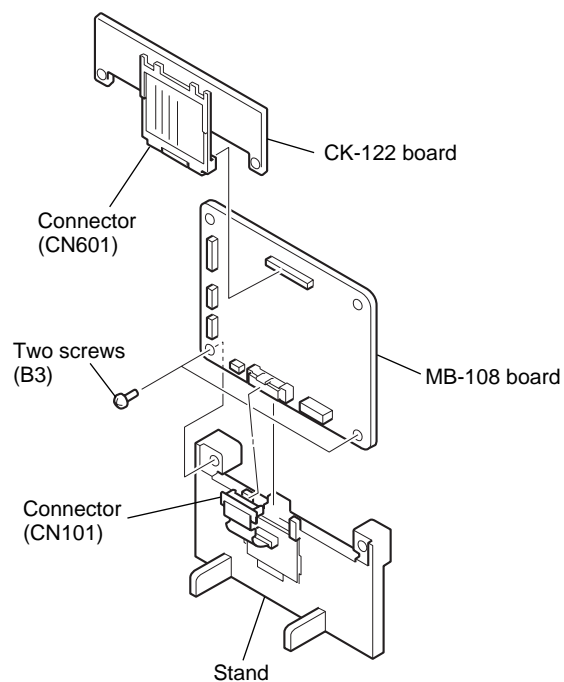

Fig. 3
- 3) Set the MB-108 board and CK-122 board to the stand as shown in Fig. 3.